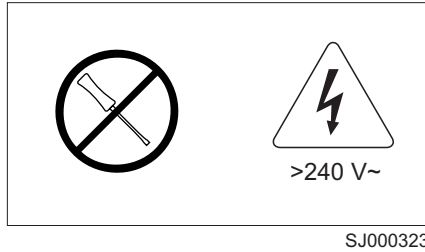

Figure 3. Power supply cover caution label
3. Verify that the power supply cover caution label shown in Figure 3 on page xvi is installed on the Model M12 power supply.